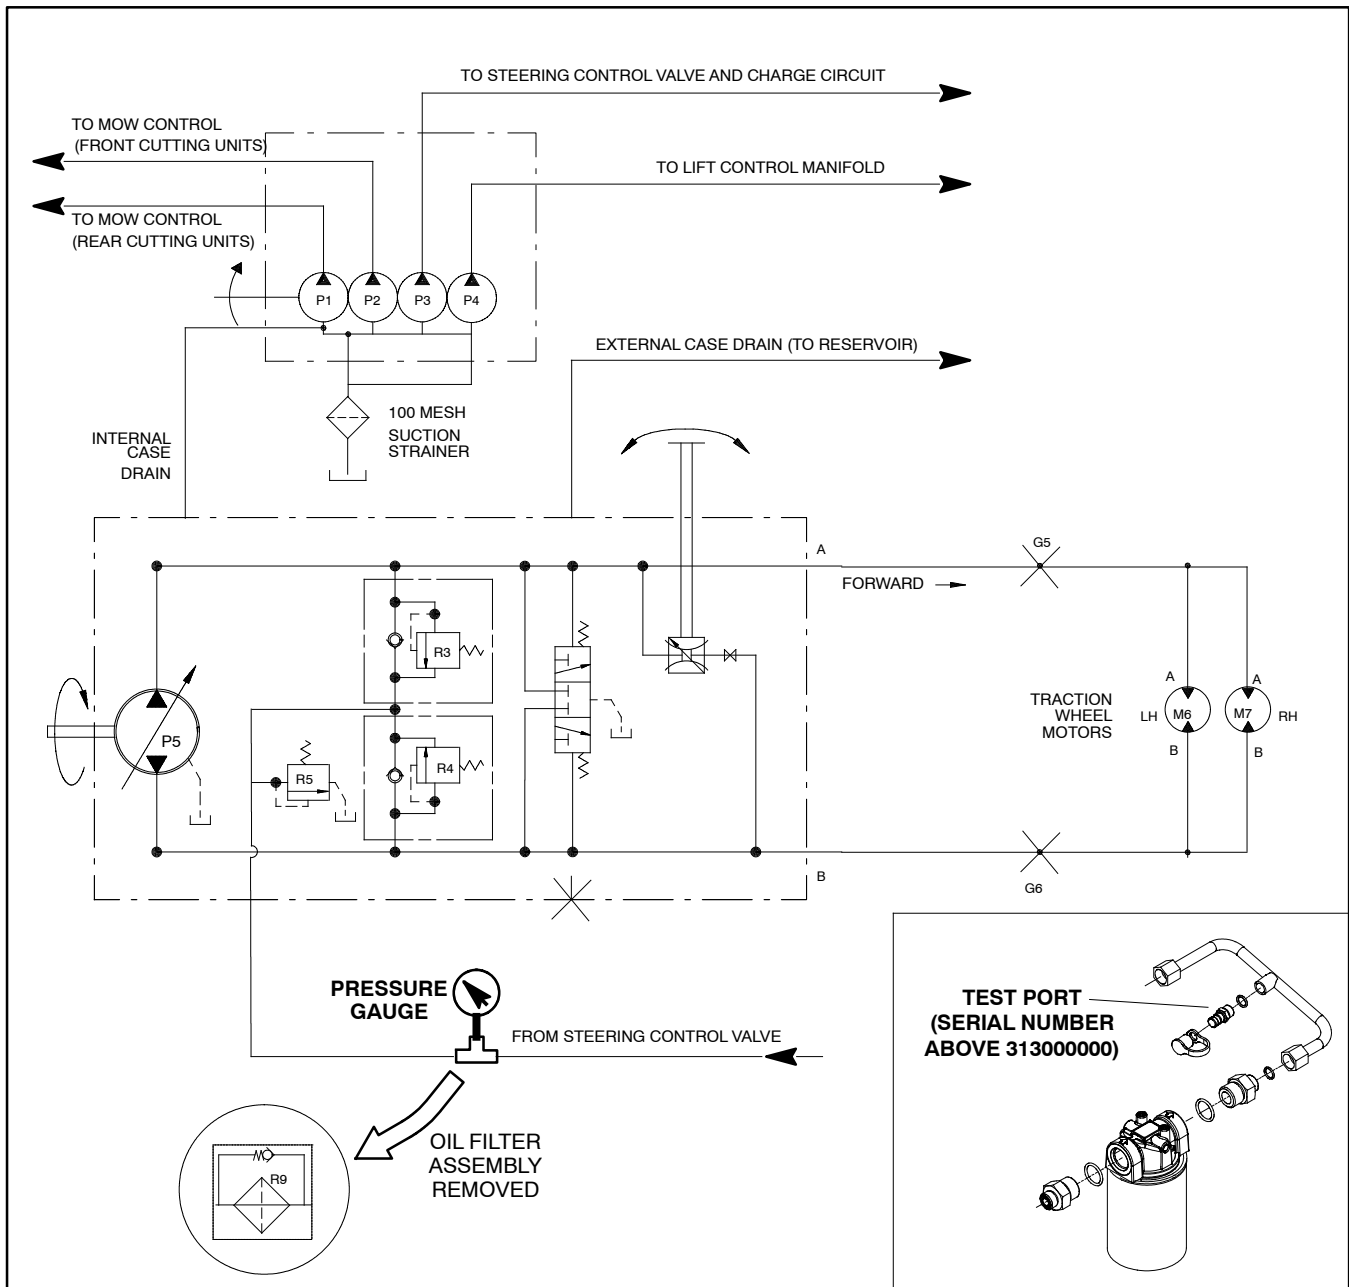

Figure 28
B. On machine with serial number above 313000000, thoroughly clean test port on hydraulic tube between piston (traction) pump and oil filter (shown in Fig. 28). Connect a 1000 PSI (70 bar) pressure gauge to test port.